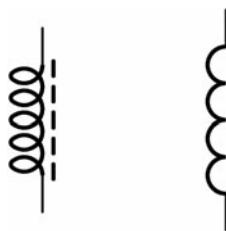

Fig. 11-7. Inductor.
If you wrap a wire around a ferrite core, it has a lot more inductance than a single wire in space. This would be an inductor as a component, as shown in Fig. 11-7. Inductance is measured in the *henry* (H), after the American scientist Joseph Henry who discovered a number of the phenomena that we call inductance. Inductors are often represented by the letter *L* in formulas and schematics. As in capacitors, we will normally work with microhenries (μH) and millihenries (mH) instead of full henries.